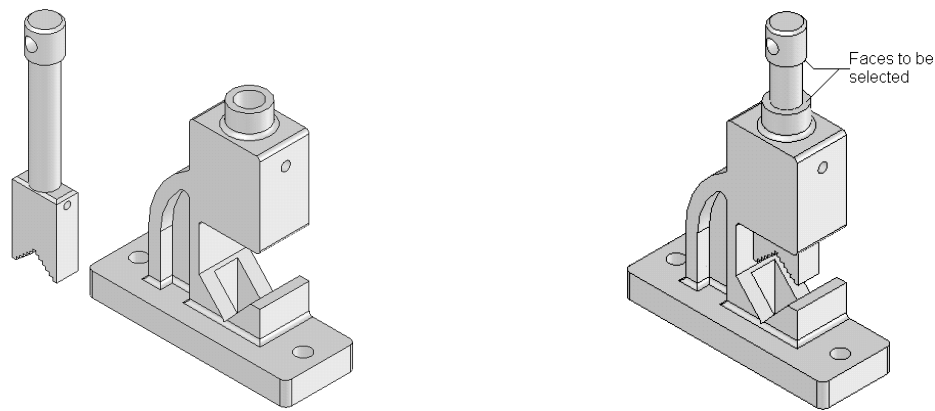

Figure 12-80 The Screw assembled with the Moveable Jaw
12. Choose the **OK** button from the **SmartMates PropertyManager**. Figure 12-80 shows the Screw after applying the mates.